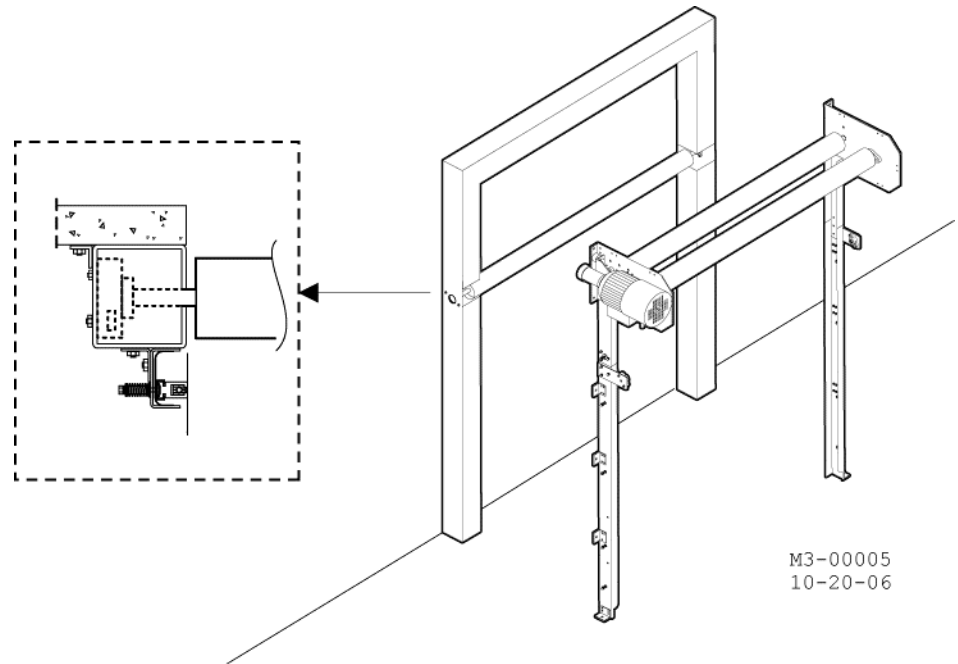

Figure 2-12: Mounting Detail
1. The fore frame must be securely mounted before mounting the door. See Figure 2-12.